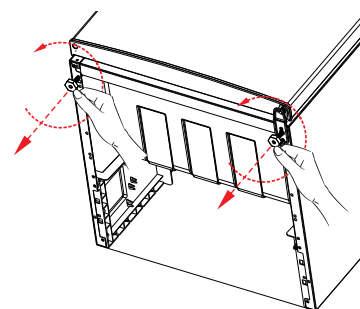

Fig. 1
- ▶ Remove the appliance feet by turning anti-clockwise (Fig. 1).